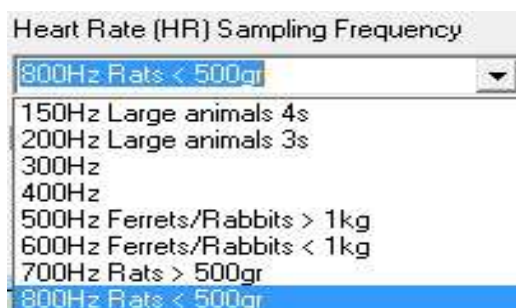

Figure 7.9 Available HR sampling frequencies
The heart rate (HR) is an ECG derived measurement where a burst recording of approx. 4-6 beats is done and the HR is calculated from the R-R interval of the ECG waveform. The HR sampling frequency is estimated from the average HR of the animal from scientific literature which is usually highly correlated to the weight of the animal. Figure 7.9 shows the possible sampling frequencies for the DST-HRT loggers.